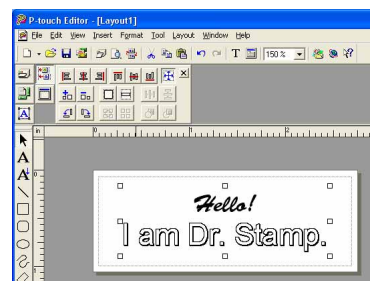

figure 13
- The selected text is changed (see figure 13).